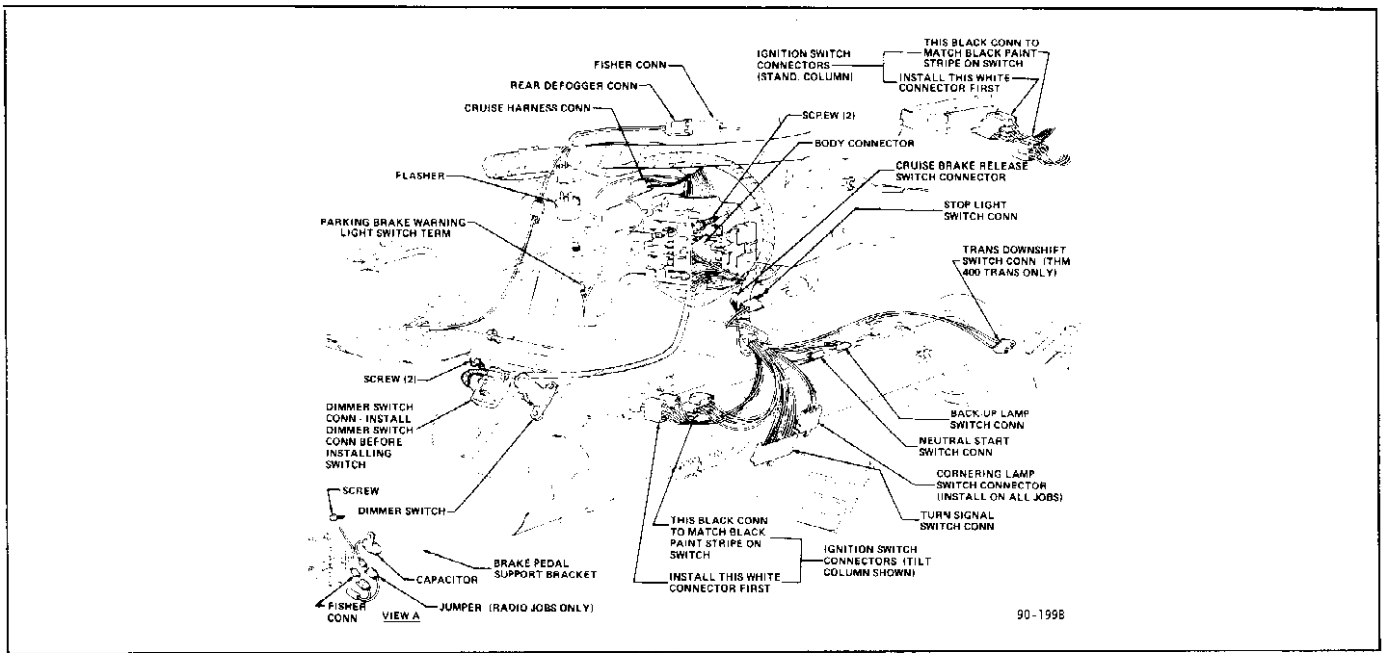

Figure 90-80 45-46-48-49000 Steering Column Electrical Connections
2. Connect all electrical connectors to steering column. See Figure 90-80.